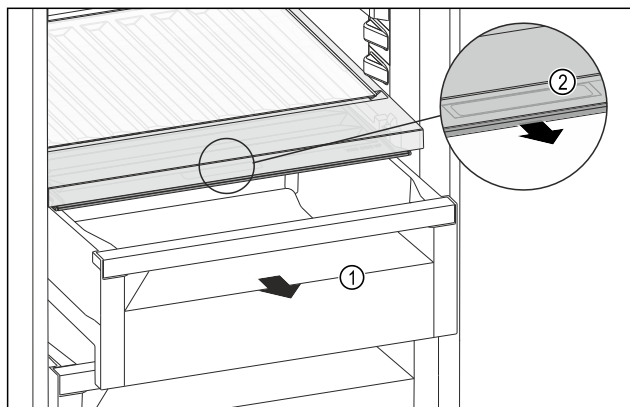

Fig. 107
- Pull out the drawer Fig. 107 (1).
- Grasp the recessed grip Fig. 107 (2) on the compartment lid and pull the compartment lid forwards at the same time.